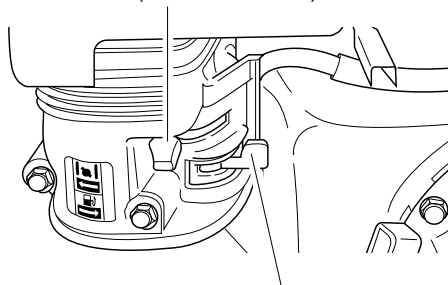
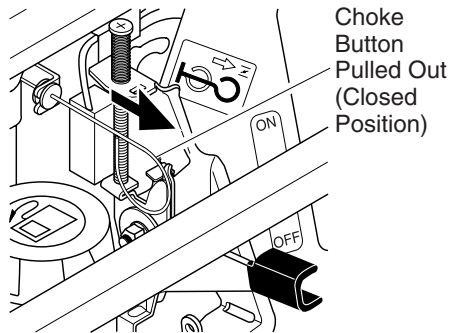

Figure 17 - Fuel Valve Lever On, Choke Lever Closed (Model MGH4000C Shown)
Figure 18 - Choke Rod Closed (Model MGH3000PR Only)
2. Move fuel valve lever to the ON position except on model MGH3000PR (see Figure 17).
3. Move choke lever fully to the left for all models except MGH3000PR and MGH10000 (see Figure 17). Pull choke rod for model MGH3000PR or choke button for model MGH10000 out (see Figures 18 and 19). This closes the choke.